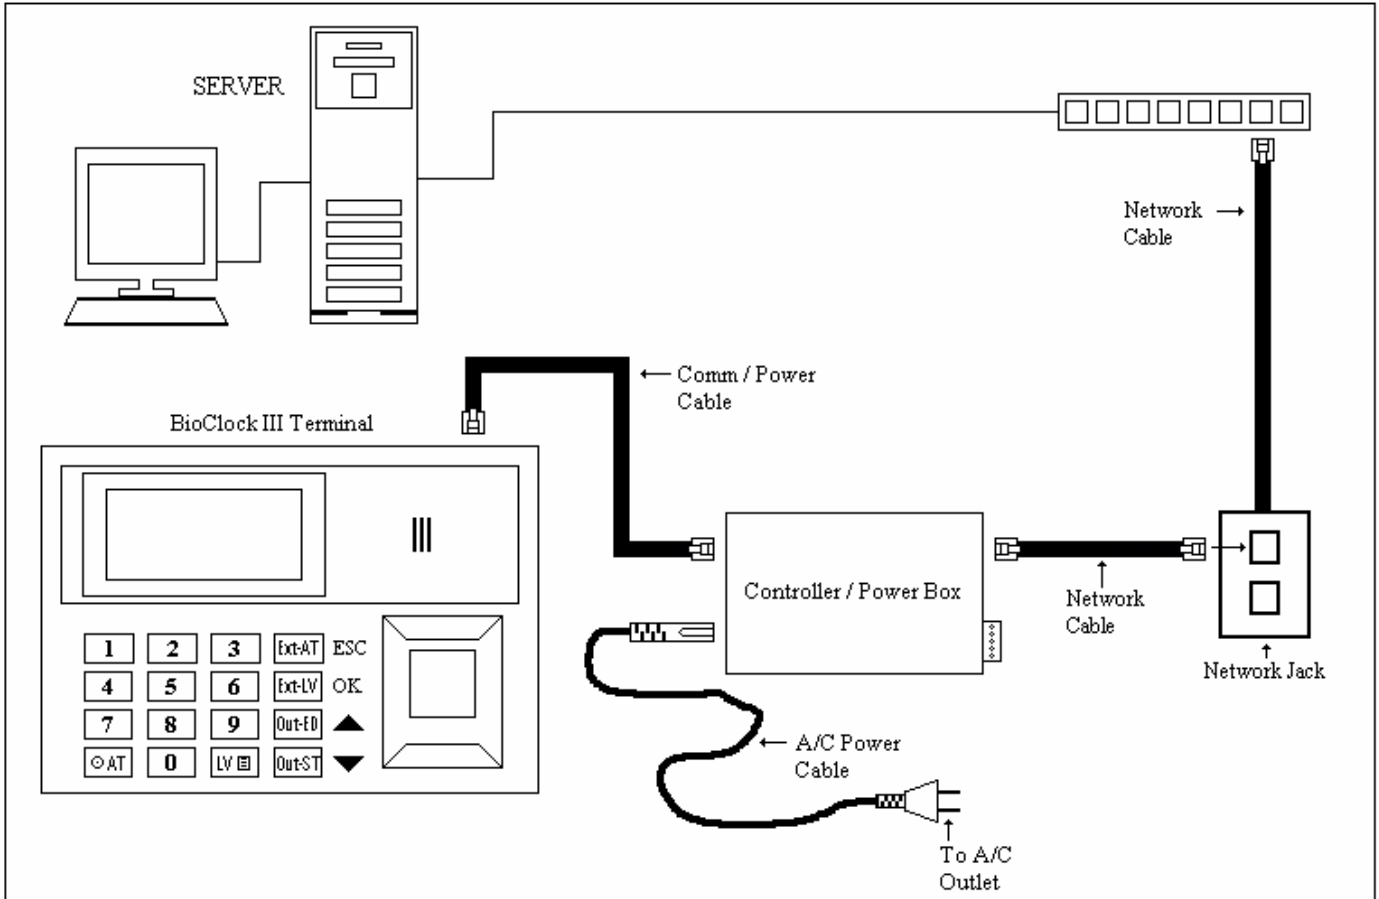

Figure 1
Figure 1 shows how all of the system components are connected on an Ethernet Terminal setup. (Note: Figures are not to scale).
- As you install the system, refer to Figure 1 in addition to the other figures mentioned below.